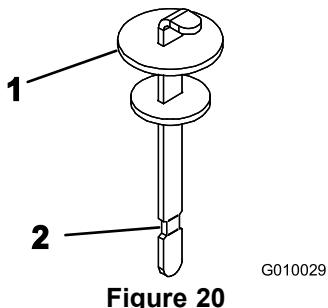

Figure 20
4. Remove dipstick from filler neck and wipe it with a clean rag. Insert dipstick into filler neck; then remove it and check level of fluid. Fluid level should be up to mark on dipstick (Figure 20).